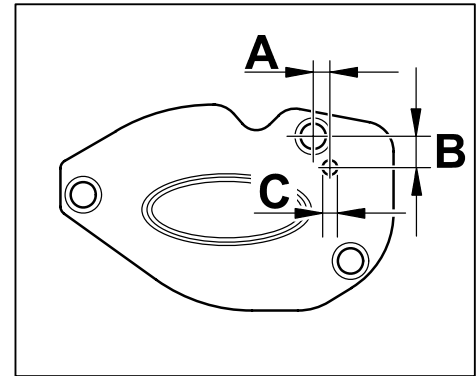

Figure 10
2.3.1 Drill the bore hole on the heat shield on the engine carrier according to the dimensions shown in  $\Rightarrow$  Figure 10.